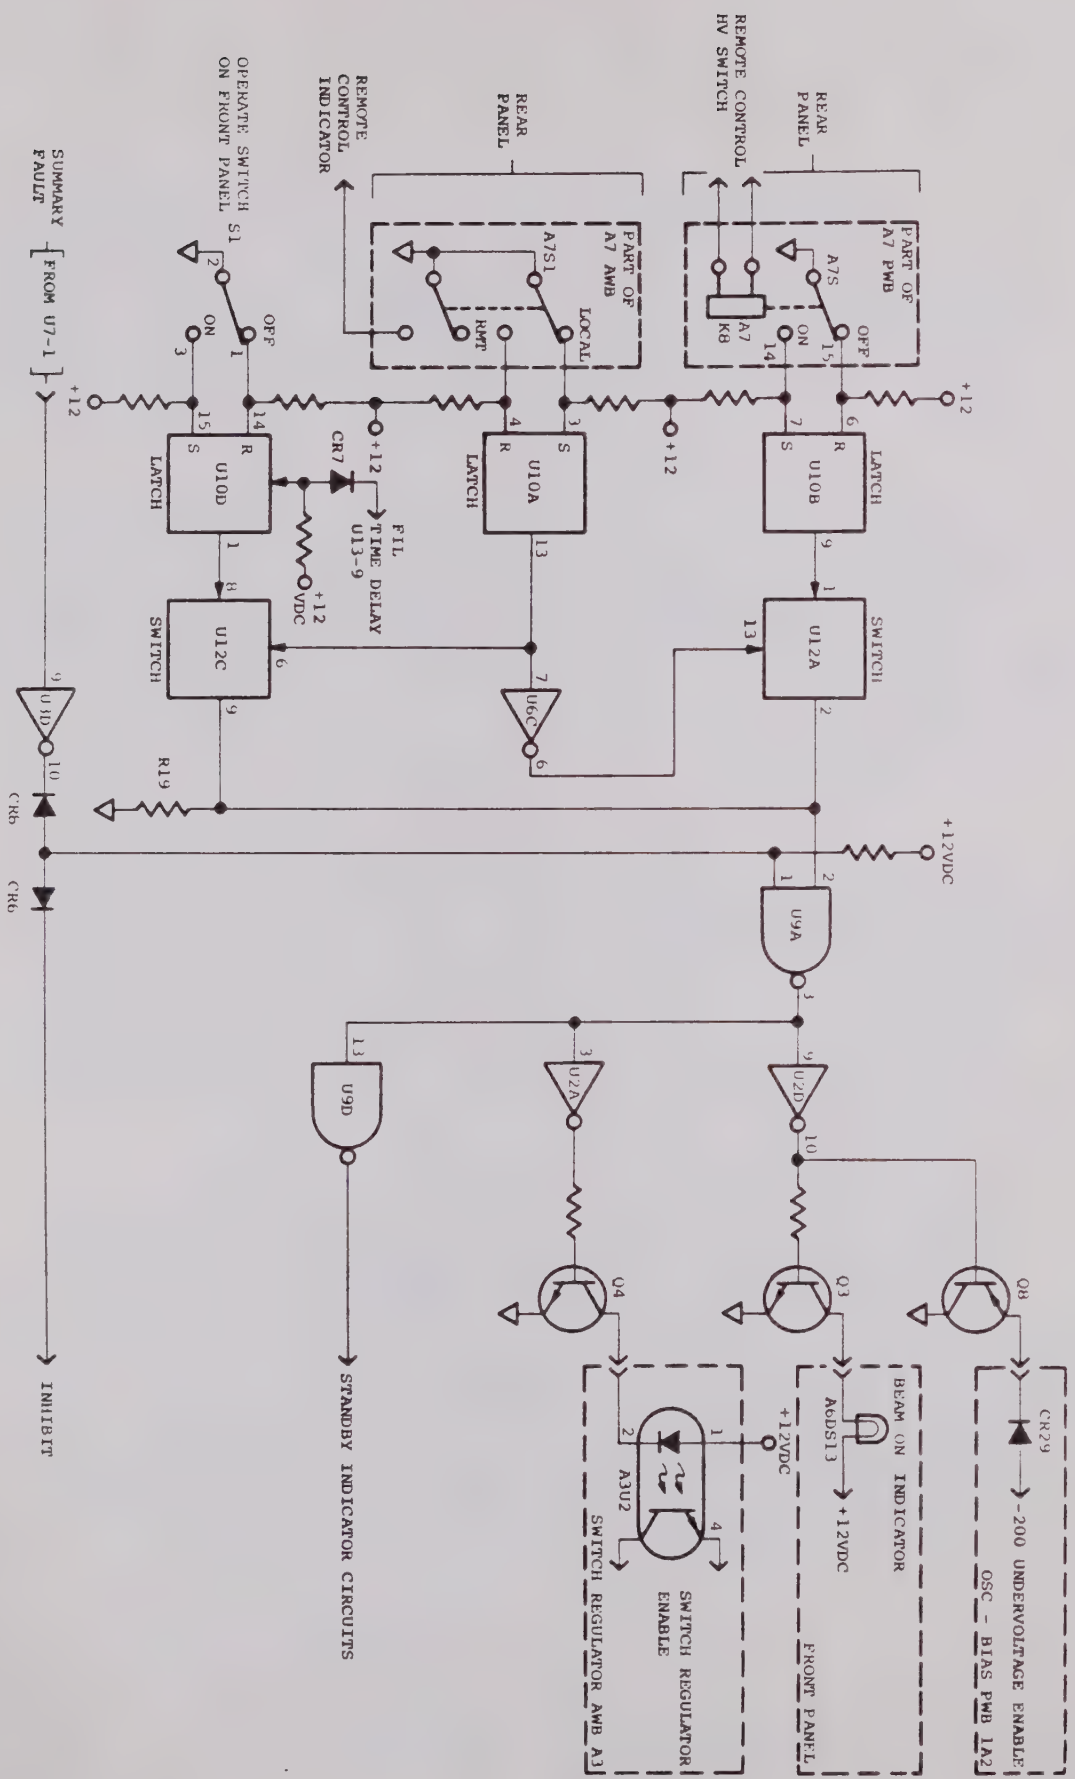

FIGURE 5-12 SIMPLIFIED SCHEMATIC-HIGH VOLTAGE CONTROL
5.2.7.2 High Voltage Control. The High Voltage Control circuits are shown in Figure 5-12.
Figure 5-12 includes the circuits for the Remote Control Option. See Section 1, Table 1-1, to determine if your PA includes this option.